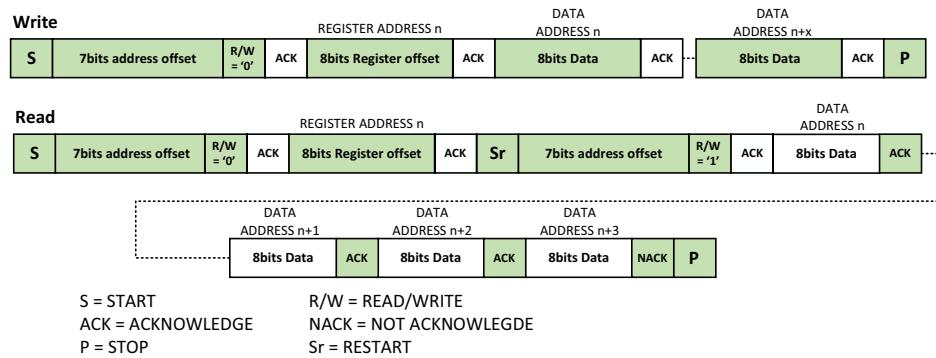

Figure 9: Read and write transmission
- If the master wants to end the transmission, it sends a NACK to notify the slave that the transmission is over, and then sends a stop bit (P). Both communications are described in the figure 9. Refer to Table 8 for all register addresses.